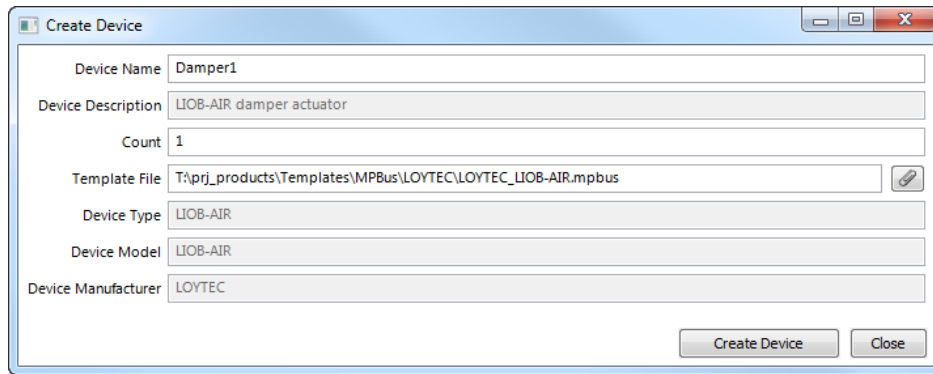

Figure 185: MP-Bus device creation dialog
3. In the **Create Device** dialog enter a Device Name and a Count of devices to be created as shown in Figure 185.